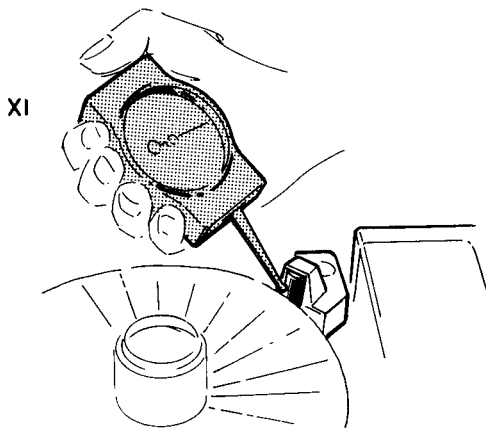

Fig. 6.24
- Fig 6.24 2. Check that the winding motor drive wheel presses against the takeup flange with a force of 650 - 800 gf.